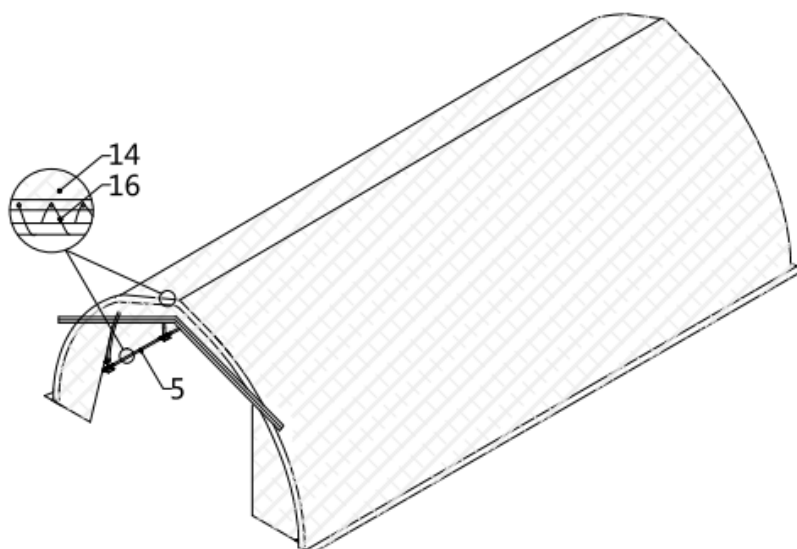

Figure 9
- Pull and stretch the cover enough only to take wrinkles out. Repeat for the rear truss. Do not over stretch as it could rip off the grommets (refer to figure 9).